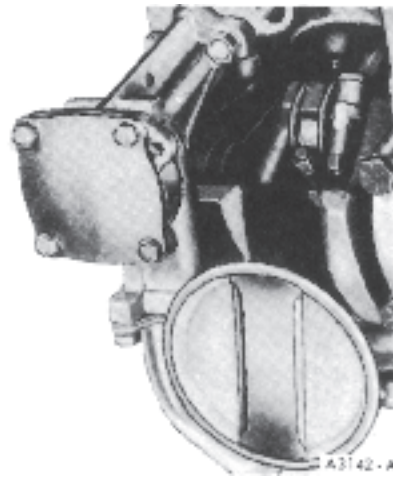

Fig. 32 Oil Pump and Inlet Tube Installed
4. Clean and install the oil pump inlet tube and screen assembly (Fig. 32).